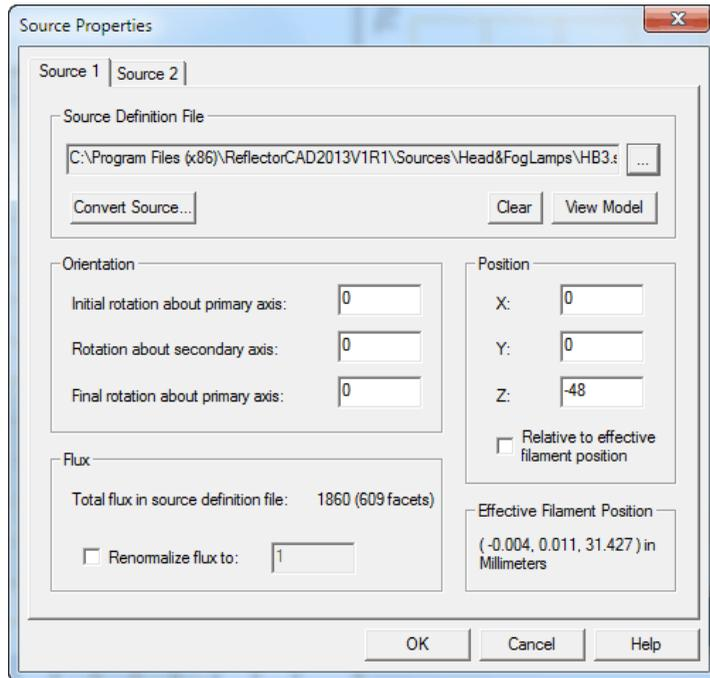

Figure 1.7 Setting source properties
- 2 Complete the Source Properties dialog box as shown in Figure 1.7, and click **OK**.